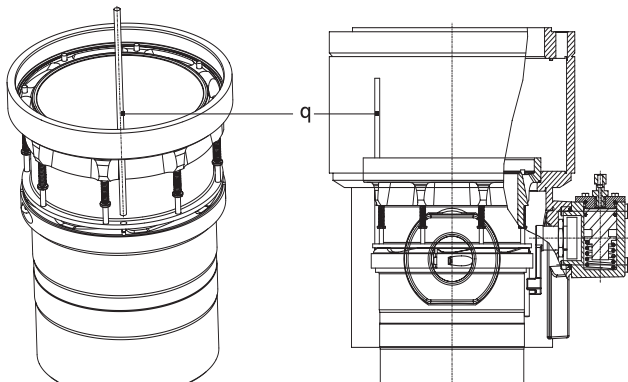

Fig. 4.5-6 Positioning cylinder liner (refer also Fig. 4.5-5)
q	location pin, refer to Fig. 4.5-6
- ☐ Fix the cam ring through the slots of the cylinder liner with location pin of the auxiliary toolkit (refer to Fig. 4.5-5 and Fig. 4.5-6).
- ☐ Position the pressure pins of the cylinder liner in line with the centre of the long cylinder head studs (refer to Fig. 4.5-5 and Fig. 4.5-6)